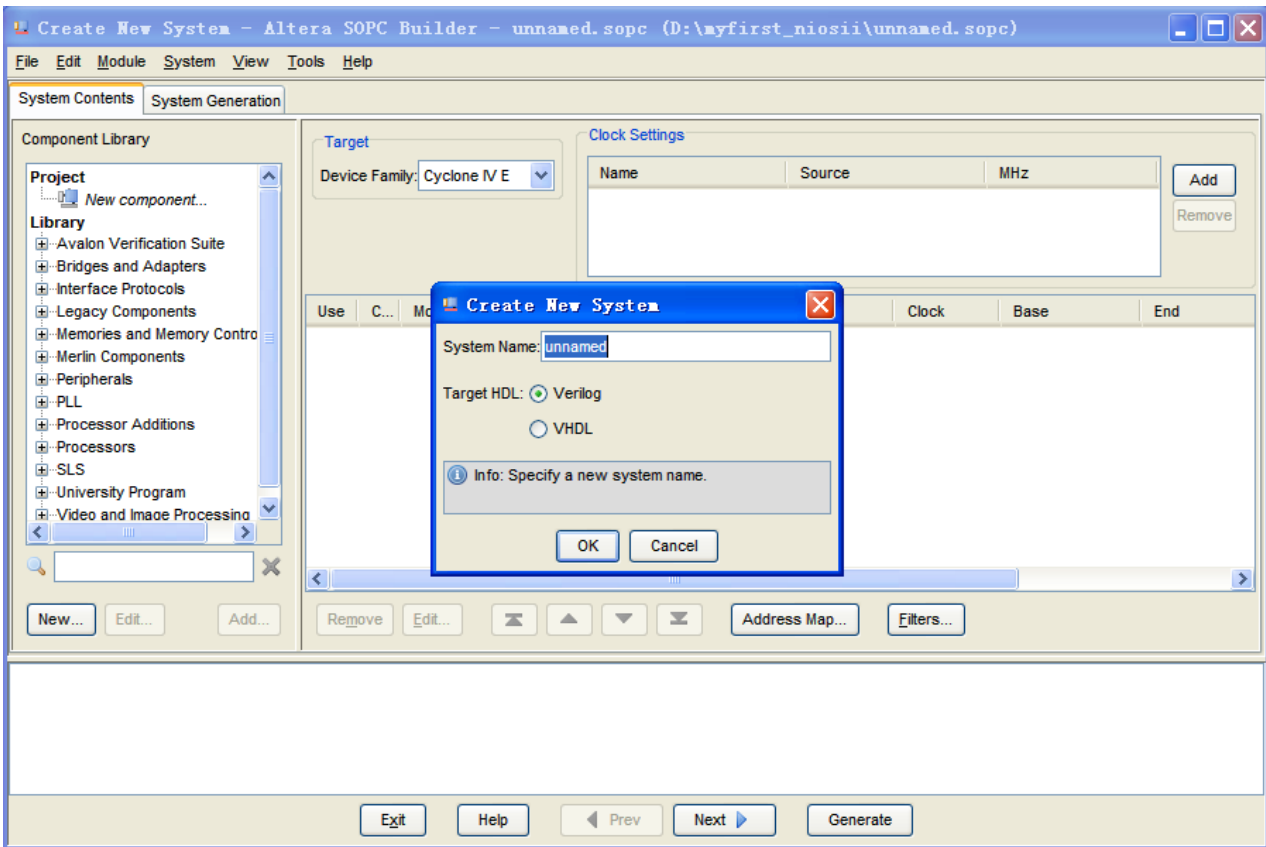
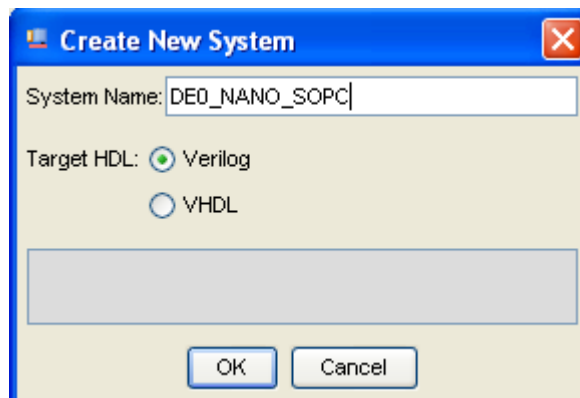
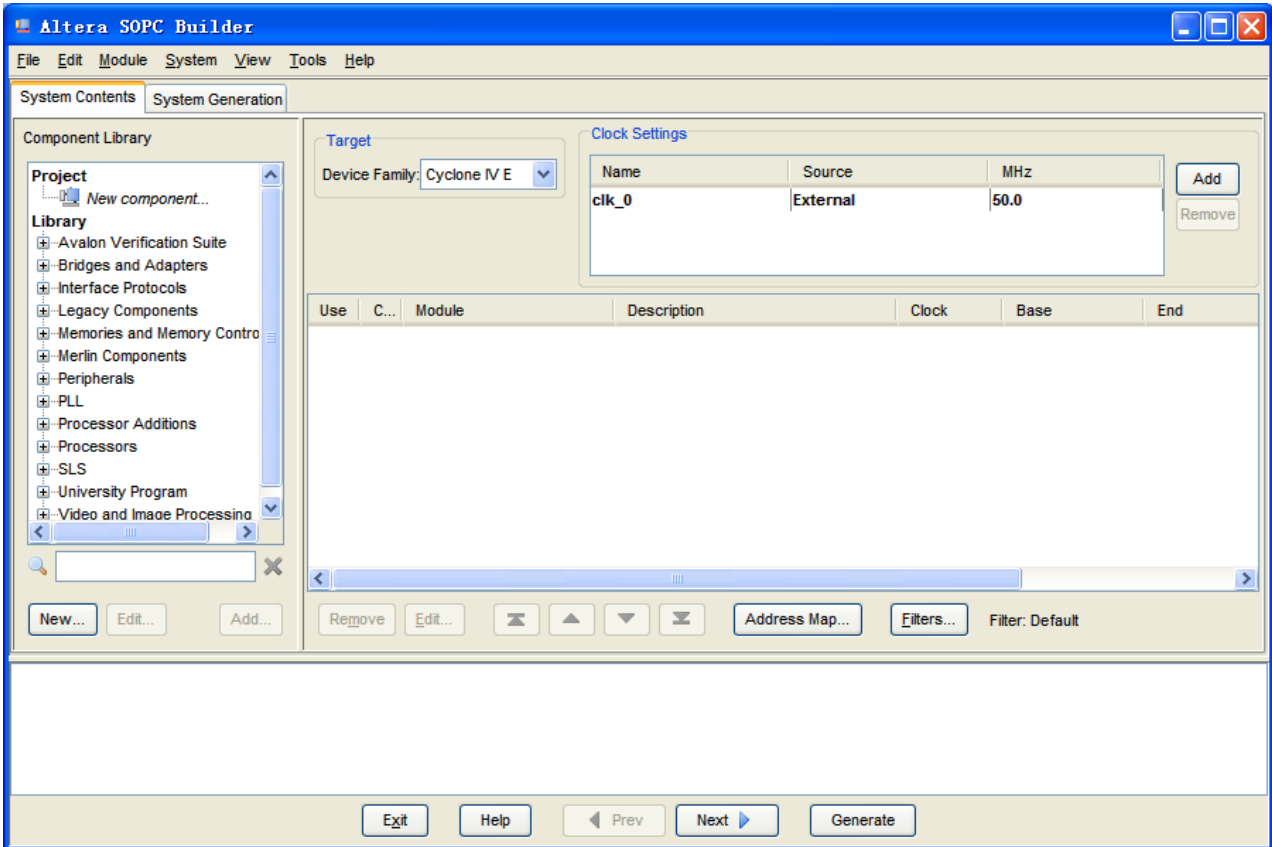

Figure 7-10 Create New SOPC System [0]
Figure 7-11 Create New System [1]
Figure 7-12 Create New System[2]
6. Rename System Name as shown in **Figure 7-10** and **Figure 7-11**. Click **OK** and your will see a window as shown in **Figure 7-12**.